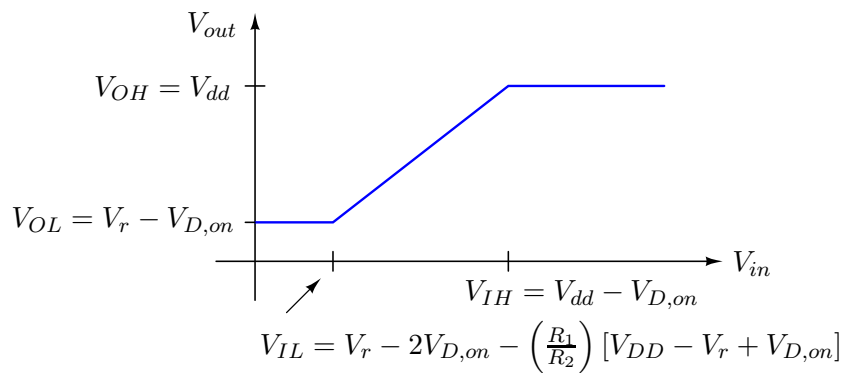

Figure 2: AND gate characteristics.
- (a) $V_s = 10 \sin(\omega t)$, where $\omega = 120\pi$ (except circuit of Figure 2)